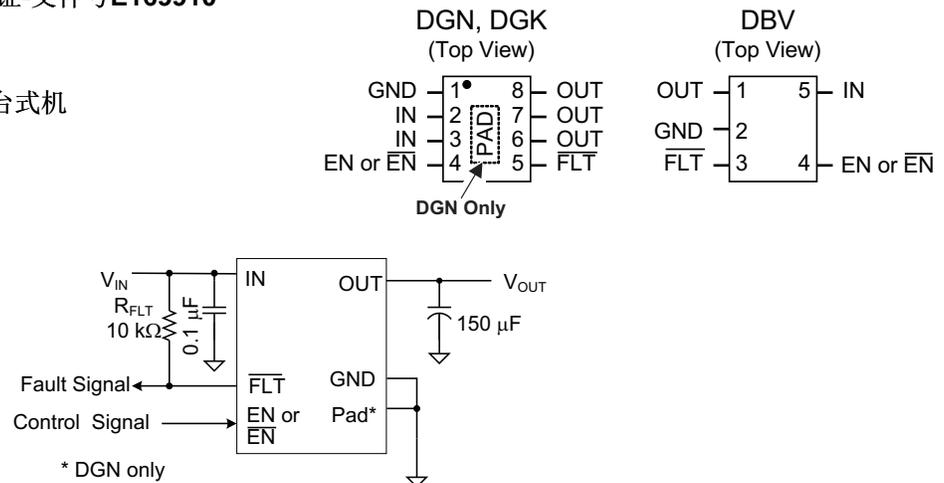

图 1. 典型应用
(1) Absolute maximum ratings apply over recommended junction temperature range.
(2) Voltages are with respect to GND unless otherwise noted.
(3) See the Input and Output Capacitance section.
(4) V_{OUT} was surged on a pcb with input and output bypassing per Figure 1 (except input capacitor was 22 μF) with no device failures.